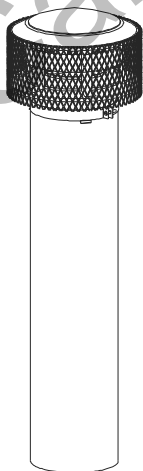

Figure 67b
2. Ensure the flanged end of the Spark Arrester is on top of the dome and the bottom folded edge overlaps the skirt (see Figure 67b).